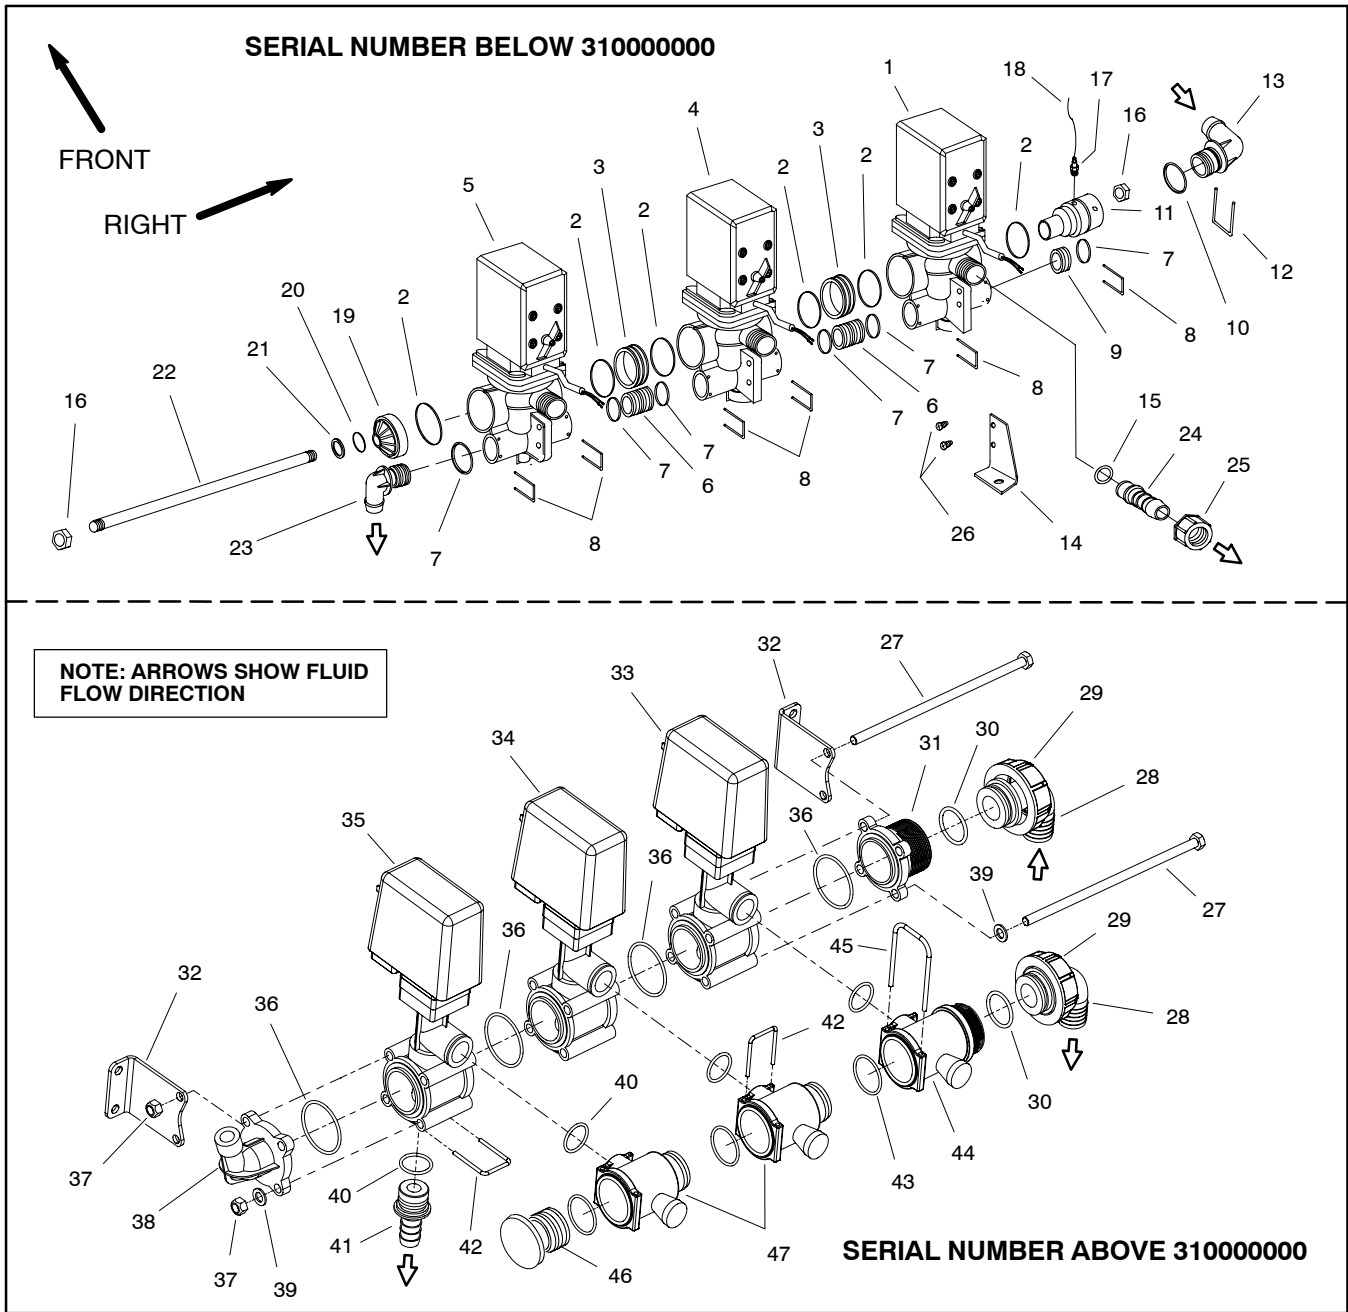

Figure 24
The boom control switches on the operator spray console are used to energize the boom valve motors and open the boom valves. The open boom valves allow system flow to reach the appropriate boom section (right, center or left). Two (2) styles of boom valve motors have been used on Multi Pro 5700-D machines. Both of these motor styles are shown in Figure 24.
Disassembly (Fig. 24)
2. Separate boom valve motors as needed using Figure 24 as a guide. Discard all removed O-rings and gaskets.
Assembly (Fig. 24)
1. Assemble boom valve motor assembly using Figure 24 as a guide. Replace all removed O-rings.
- A. On machines with serial numbers below 310000000, before installing rod (Item 22) into assembly, thread nut (item 16) fully onto rod end that has fewer threads. Make sure that O-ring (Item 20) is not damaged during installation over rod.